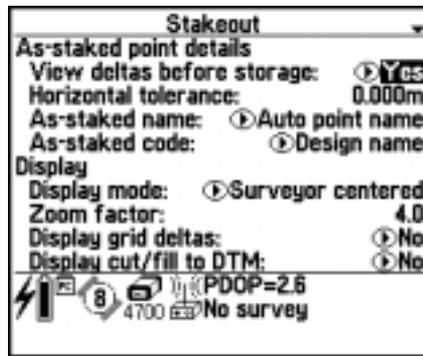

Figure 17.1 Stakeout options screen
1. From the *Survey/Stakeout* screen, press . The *Options* screen appears. Fields in this screen are similar to those in the *Stakeout* screen shown in Figure 17.1.